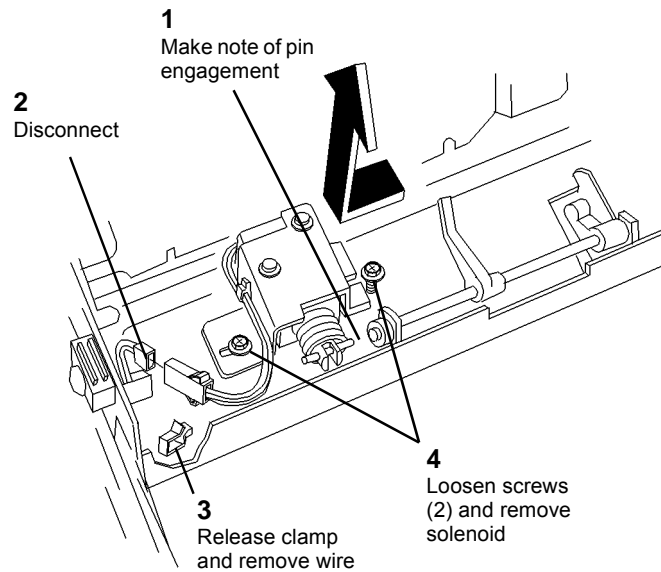

Figure 1 Removing Set Gate Solenoid Assembly
4. Remove Set Gate Solenoid Assembly (Figure 1).